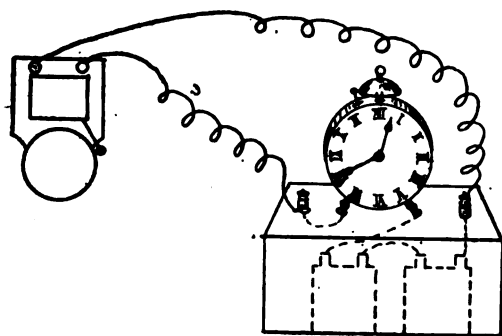
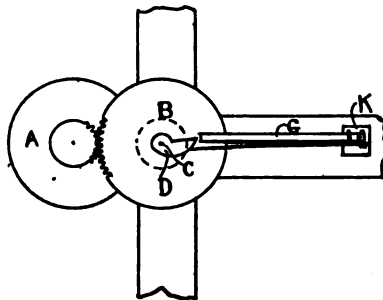

FIG. 3.
FIG. 4.
A neat method of making the connection is shown in Fig. 3. The battery is contained in a box with two binding screws, and two brass-headed nails fixed in its cover; the latter are so placed that the legs of the clock can rest one on each of them. One is connected to one of the terminals, and the other to one battery plate, the other plate being connected to the remaining terminal. The rest of the connections can be easily seen from the figure. One advantage of this form of connecting-up is that the clock can be carried into another room during the day, and replaced at night without any bother of screwing up and unscrewing binding screws, though, of course, if preferred, the legs of the clock can be themselves used as binding screws.
Action of No. 2 Alarm.—On removing the face of a clock, a train of four pinion wheels, shown in Fig. 4 at A, B, will be found, which reduces the speed of the minute hand spindle to that of the hour hand. The last of these wheels (B) runs on the minute hand spindle, and
has a long boss C, which projects through the face and carries the hour hand. If an adjustable contact-maker be fitted on this boss so as to complete the circuit at any registered hour, we have obviously an attachment applicable to any clock construction. Take a round piece of brass some four times the diameter of the boss C, and about $\frac{1}{8}$ -in. thick, and file it to the shape of D, Fig. 4. A hole must now be drilled through D of such a size that D will just *not* go on to the boss C. Next, with a fine hacksaw, cut through D, to make it spring on to C. If D still refuses to go on to C, ease the hole with a round file or reamer till D can be revolved stiffly on its boss C. Next fasten a block of some insulating material to clock frame, as shown at K, and procure an old piece of clock spring (seen edgewise), which, when screwed to its support, overlaps the point of D by, in a small clock, some $\frac{1}{32}$ in. Up against the spring, fix on the block K a piece of $\frac{1}{8}$ -in. sheet iron G, a $\frac{1}{4}$ -in. or more wide. The end of G must be in line with, and just short enough to clear the point of D.
fit it as it ought to be fitted, so I had to build the hollow shaft up. I first got two pieces of steel $1\frac{1}{4}$ in. long, and drilled $\frac{1}{2}$ -in. hole through each. A piece of $\frac{3}{4}$ -in. steam barrel or tube was slotted at each end as Fig. 2. These slots formed keyways. The pieces of steel were turned to a driving fit into each end of the tube and brazed in, and thus I had the necessary hollow shaft with steel-wearing parts, as shown in section at Fig. 3. Mounted on a mandrel the ends were turned to fit the wheel and pinion, and fitted on with two steel keys, and shown at Fig. 4. It is thrown in and out by eccentric shaft, which needs no description. The thrust plate is supported by three turned steel pillars, and holds an adjusting screw with dead hard thrust pin, and also holds the reversing wheels, which can be altered simply by pulling up a spring pin. The loose or poppet head was a difficult job. I found I could get nothing ready made that I could use for the purpose, so I had to get a piece of $1\frac{1}{4}$ in. steel drilled at an engineer's